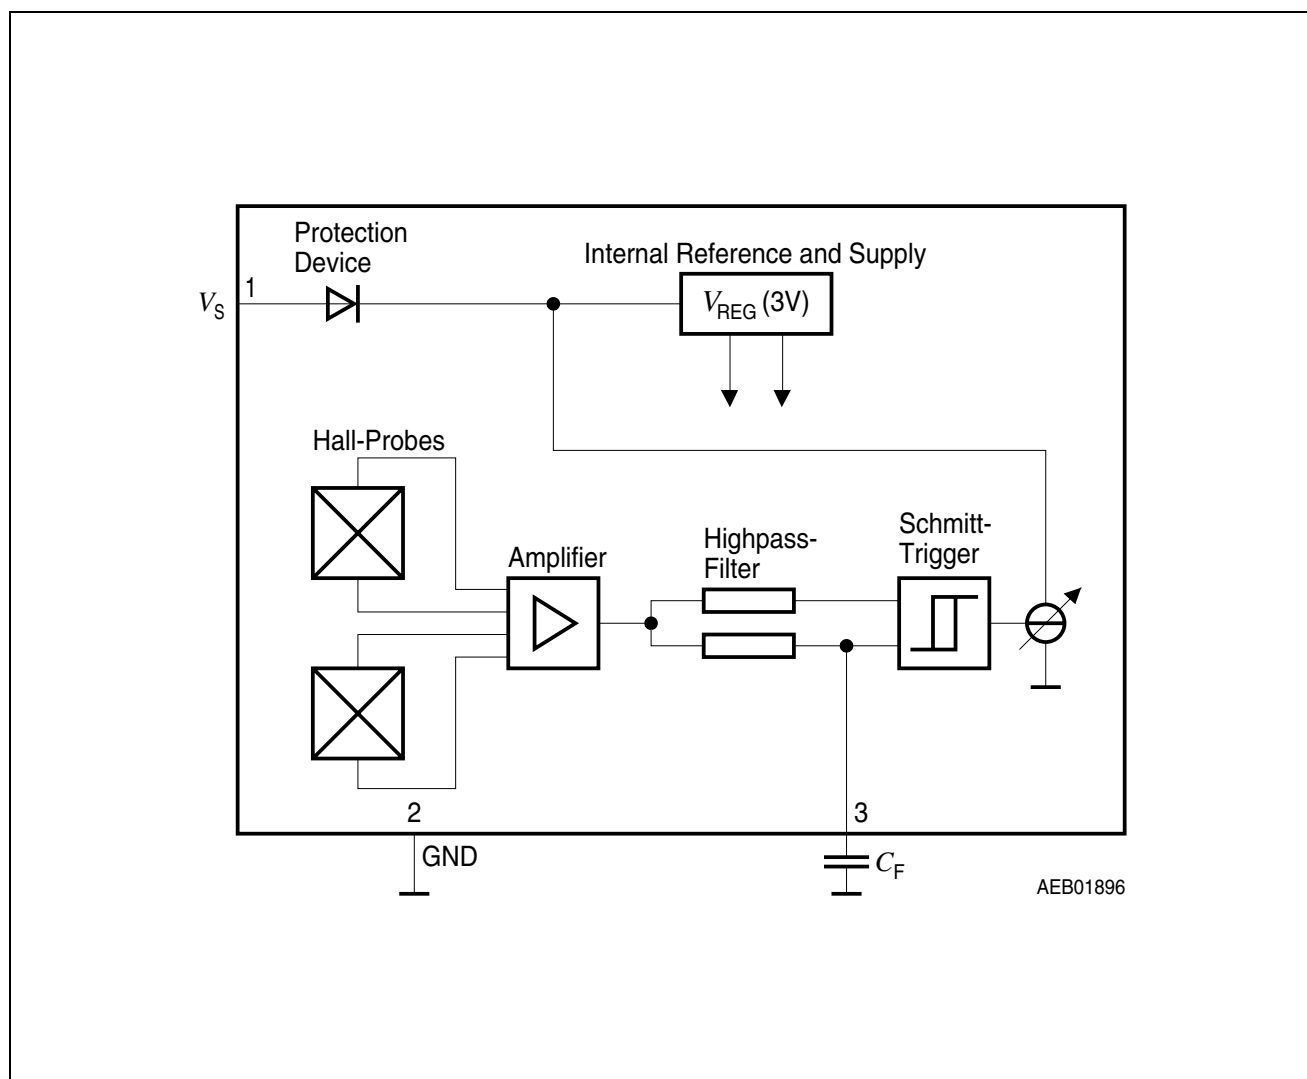

Figure 2 Block Diagram
2.3 Circuit Description (see Figure 2)